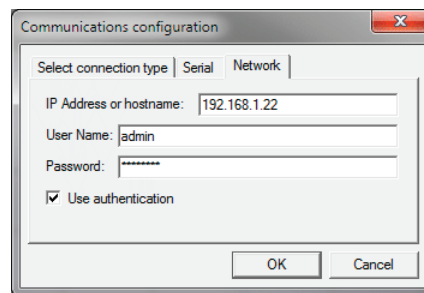

Figure 4-8. The Comms config popup
- c. In the first tab, select the Network connection. The Serial option is used only for the standard Freedom II switch. See Figure 4-8.